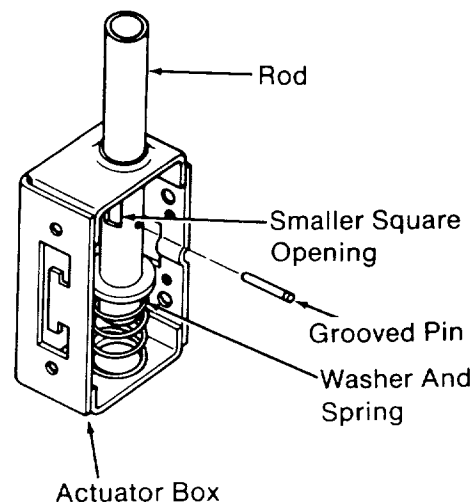

Fig. 24 - Building Left Foot Assembly
7. Put a *washer* and *spring* in place on the bottom of the *rod*, and then slide the *rod* all the way down. (Figure 24)